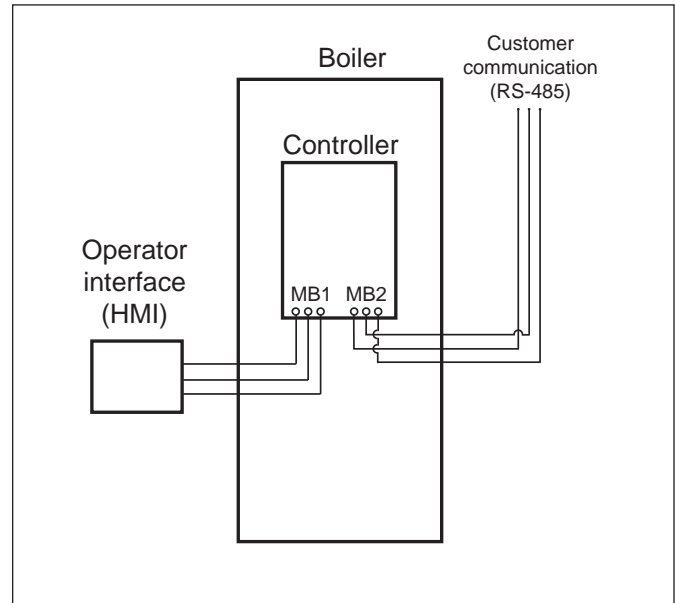

Figure 33. - BAS Connections to a Single Boiler
Signals from a Building Automation System can be connected to the MB2 Modbus connections on the controller. See **Figure 33**. (MB1 is used to connect to the User Interface (UI).